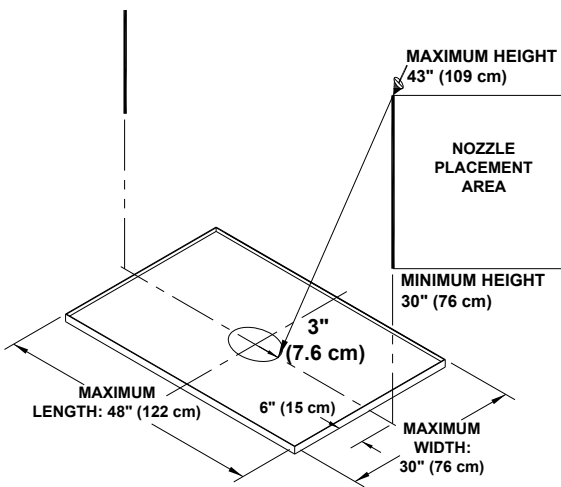

Figure 3-18.
The **Model N-1LP** nozzle is a one (1) flow point nozzle that can protect a griddle with a maximum cooking area of 48" (122 cm) wide by 30" (76 cm) deep. The nozzle must be located 30" (76 cm) to 43" (109 cm) above the cooking surface, on the centerline of the appliance and 6" (15 cm) off the either short edge. The nozzle must be aimed 3" (7.6 cm) from the center of the cooking area in-line with the nozzle. See **Figure 3-18**.